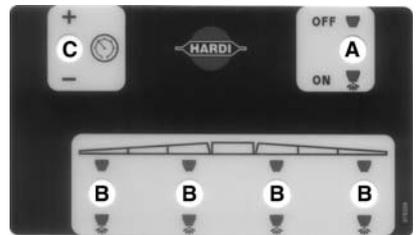

Fig. 17
4. ON/OFF switch **(A)** (Fig. 17) is "ON" against green symbol.
5. All boom section valve switches **(B)** (Fig. 17) are also "ON" against green symbol.
6. Hold pressure regulating switch **(C)** (Fig. 17) to **(-)** until handle **(2)** (Fig. 16) stops rotating, this will be the "minimum pressure" setting.
7. Hold pressure regulating switch **(C)** (Fig. 17) to **(+)** until desired pressure is shown on the pressure gauge **(4)** (Fig. 16).